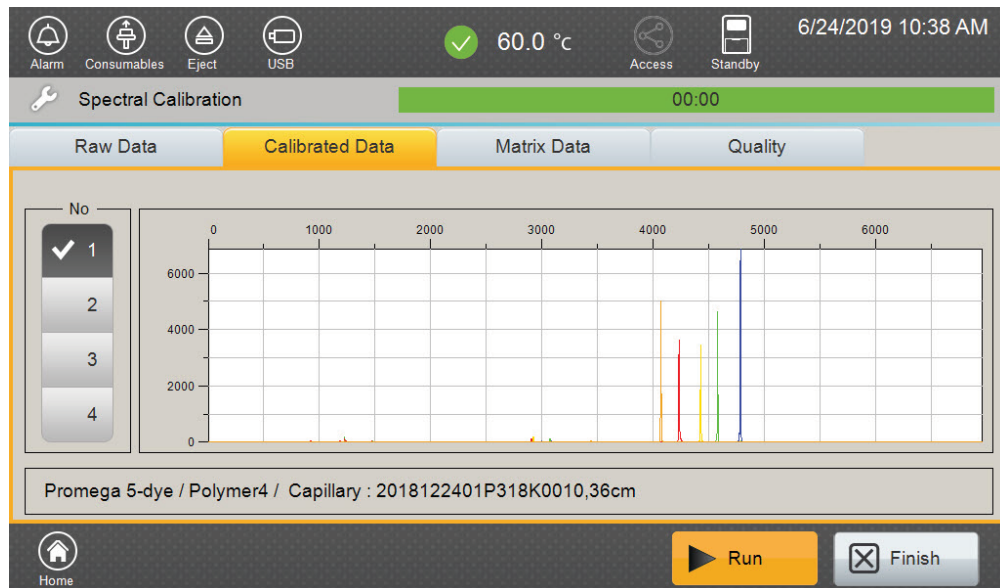

Figure 39. Spectral Calibration 'Calibrated Data' tab screen.
2. The 'Calibrated Data' tab can be used to view the matrix peaks with both baseline and spectral applied for each capillary (Figure 39).